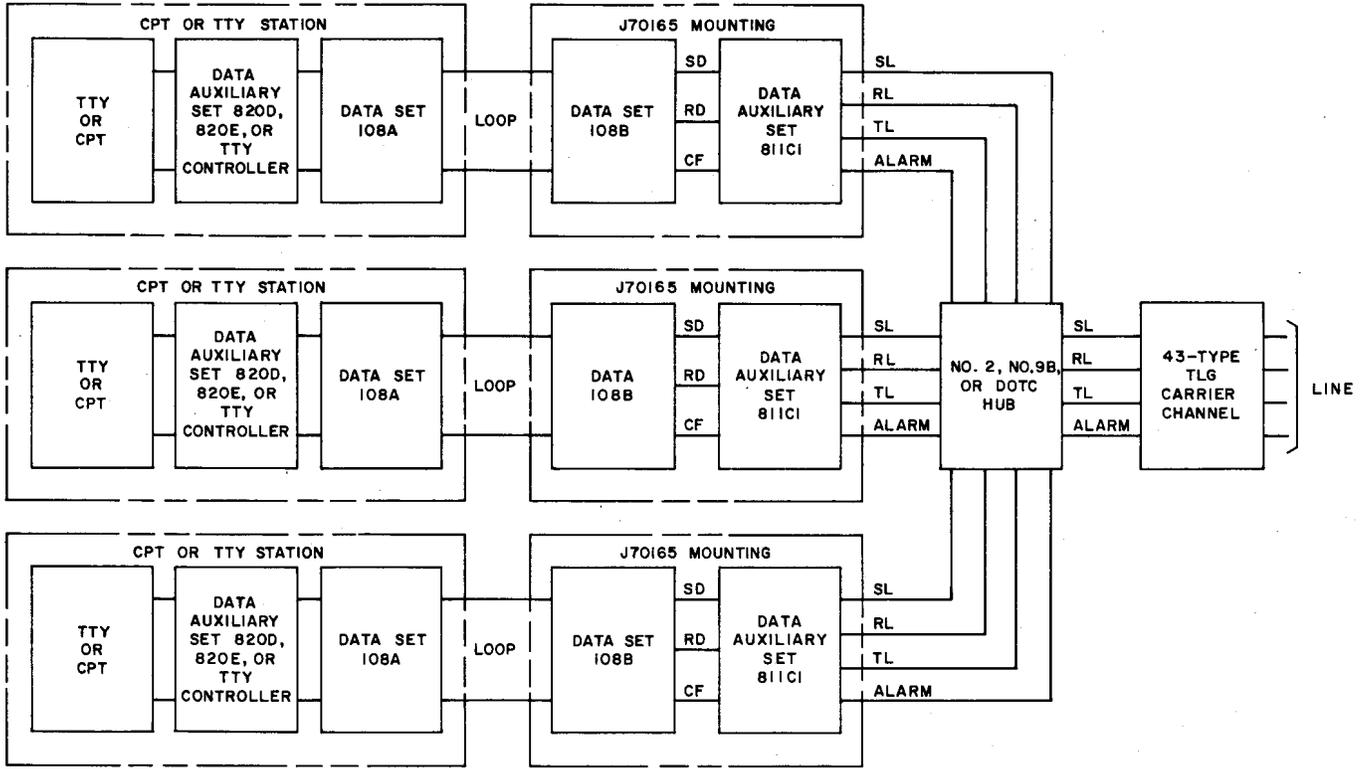

Fig. 2—System Block Diagram
1.02 The Data Auxiliary Set 811C is used in conjunction with Data Sets 108B and 109B. It provides the required interface between these data sets and the hub circuit of a No. 2, No. 9B, or DOTC Serviceboard for data transmission at speeds up to 150 bauds. Refer to Fig. 2 for a block diagram of the system showing the relationship of the units.